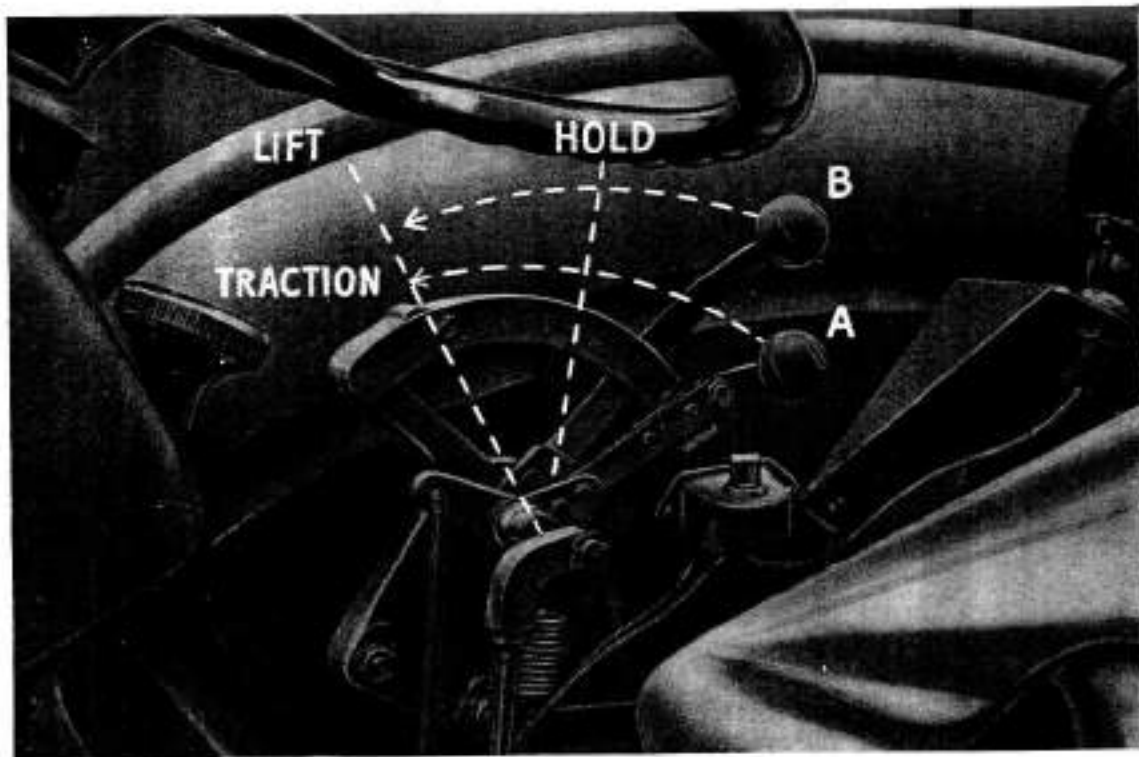

FIG. 35
Hand lever A, Fig. 35, fitted at the hydraulic lift control.
1. Move the lever A, Fig. 35, forwards to the notch. This action also places the hydraulic lift control lever in the forward position.